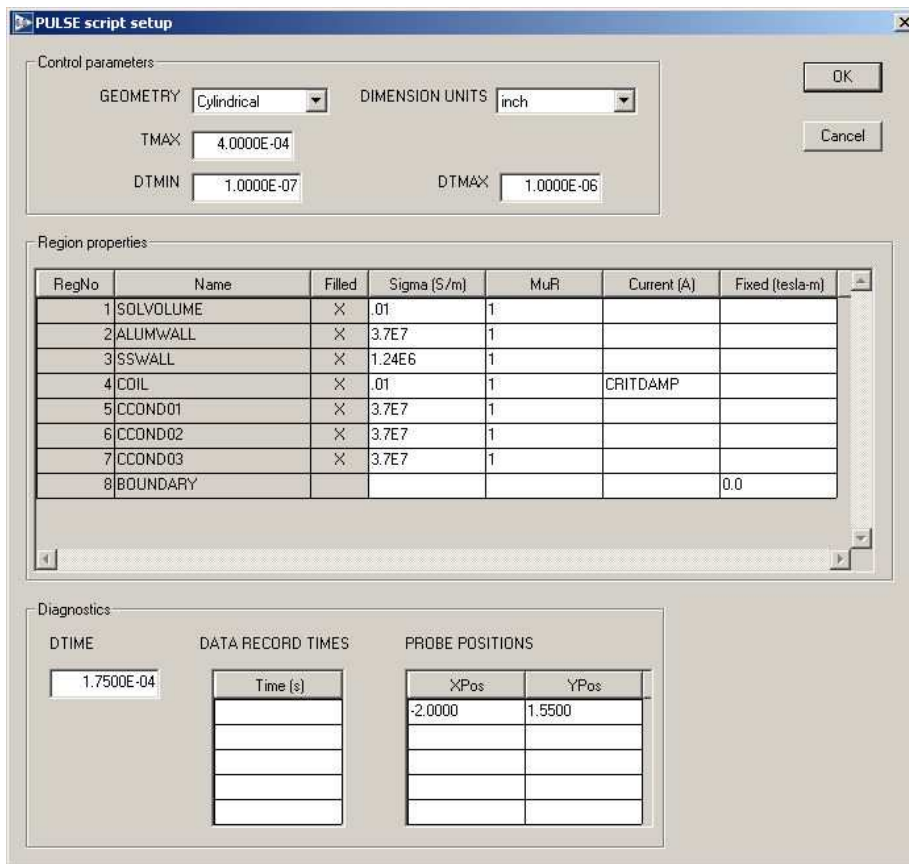

Figure 5: Dialog to set **Pulse** control parameters and region properties.
To start the first operation, we must identify the **Mesh** output file that defines the system geometry. Click the 1 tool or the *Setup* menu command. In the dialog, choose the file WALKTHROUGH.MOU. **Pulse** loads the information and displays the dialog of Fig. 5. Note that the grid contains a row for each mesh region with a notation of the *Fill* status. There are four columns in the grid where you can enter values: *Sigma* (electrical conductivity in S/m), *MuR* (relative magnetic permeability), *Current* (total current I_z or I_θ through the region cross section in amperes) and *Fixed* (specified value of A_z in tesla-m or rA_θ in tesla-m²).
Set up the dialog with the values shown in Fig. 5 and click *OK*. **Pulse** uses the information in the dialog to create the script `WALKTHROUGH.PIN` shown in Table 3. Chapter 3 reviews the script format and advanced program capabilities.
In the region quantities of Fig. 5, note that the vacuum/air region (1) has $\mu_r = 1.0$ and $\sigma = 0.01$ S/m. The conductivity is much smaller than the metal regions but not zero. In a diffusion solution, information must propagate at a finite velocity. The speed of light does not enter into the magnetic diffusion equations discussed in Sect. 1.5. Therefore, the value $\sigma = 0.0$ would give an infinite mesh velocity leading to numerical instability. The choice $\sigma = 0.01$ ensures that changes of magnetic field move rapidly through the air/vacuum regions compared to the rise-time of the drive current pulse. The entry for region 8 sets $rA_\theta = 0.0$ for the nodes on the bottom, right and top boundaries of the solution. The condition constrains the magnetic field to be parallel to these surfaces. It is clear that the condition holds on the bottom boundary (axis of rotation), but some explanation is needed for the other two. The field will not be completely contained by the aluminum vacuum chamber. Some flux leaks out, and one of our goals is to find the magnetic field amplitude outside the tube. In a finite-element calculation of magnetic-field diffusion, it is not possible to define an ideal free-space boundary. In **Pulse**, there are two choices for the boundary condition: 1) parallel **B** and 2) normal **B**. To approximate the free-space condition, we include an isolating air region around the system and apply the condition that **B** is parallel. With no specification, the left-hand boundary automatically assume the natural boundary conditions for a finite-element magnetic-field solution (normal **B**). Because there is a long, uniform section of transmission line to the left of the solution volume, the condition that $B_r = 0.0$ is approximately correct.